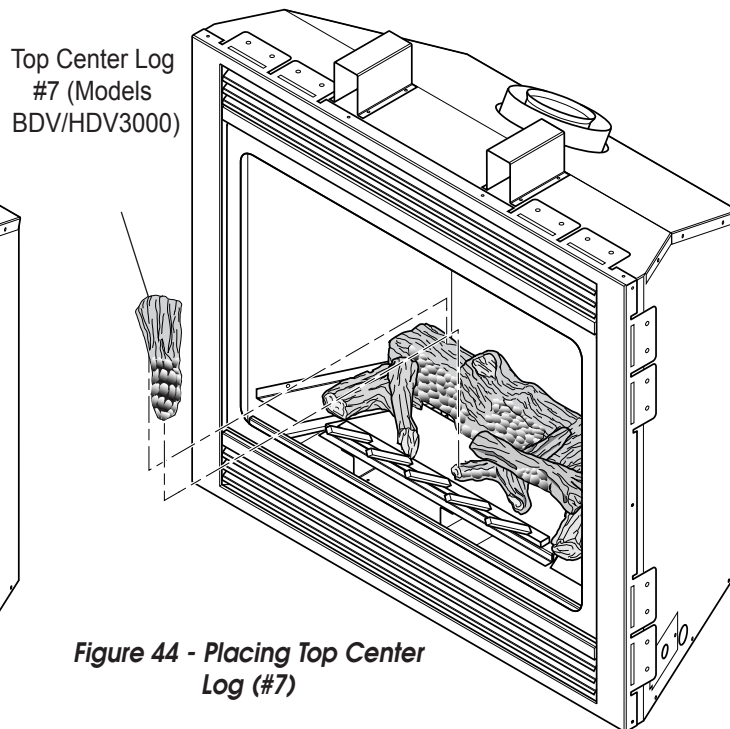
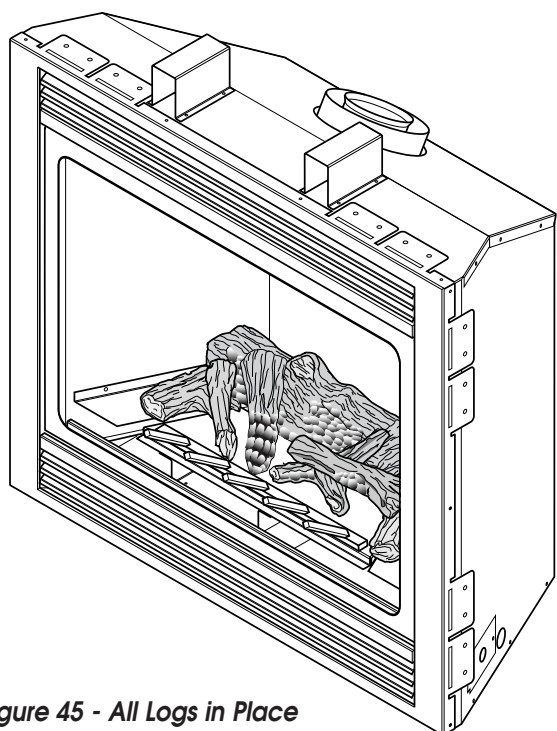

Figure 44 - Placing Top Center Log (#7)
Figure 45 - All Logs in Place
7. For models BDV/HDV3000 place top center log #7 on rear log and bottom center log as shown in *Figure 44*. Logs should now look like *Figure 45*.